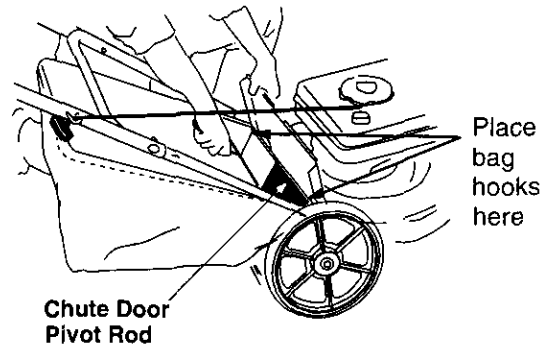

Figure 7
- Holding the grass bag firmly, place the bag on the mower as shown in Figure 7.
- Place hooks, located on two sides of the grass catcher frame, over the chute door pivot rod on the back of the unit. See Figure 7. Release the chute door.